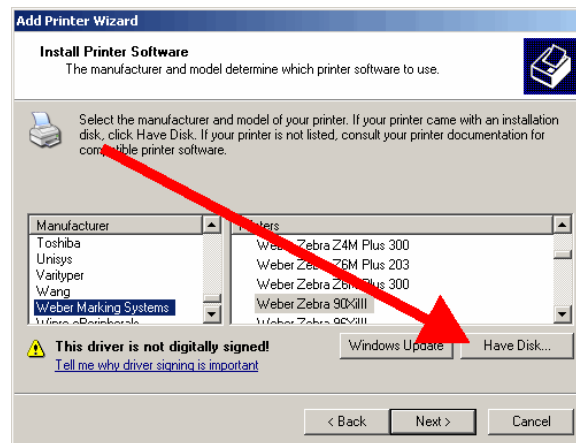

Figure 14
18. Click the Have Disk button when the list of manufacturers and printers on the Install Printer Software window comes up. (Figure 14)